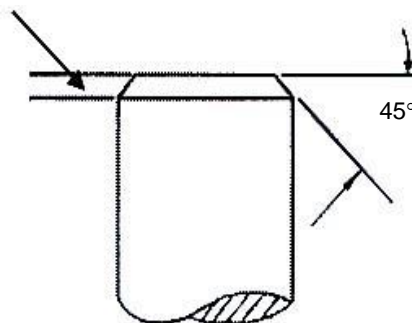

FIG 5.
A. Chamfer the end of the round bar with a smooth file. (Fig 5)